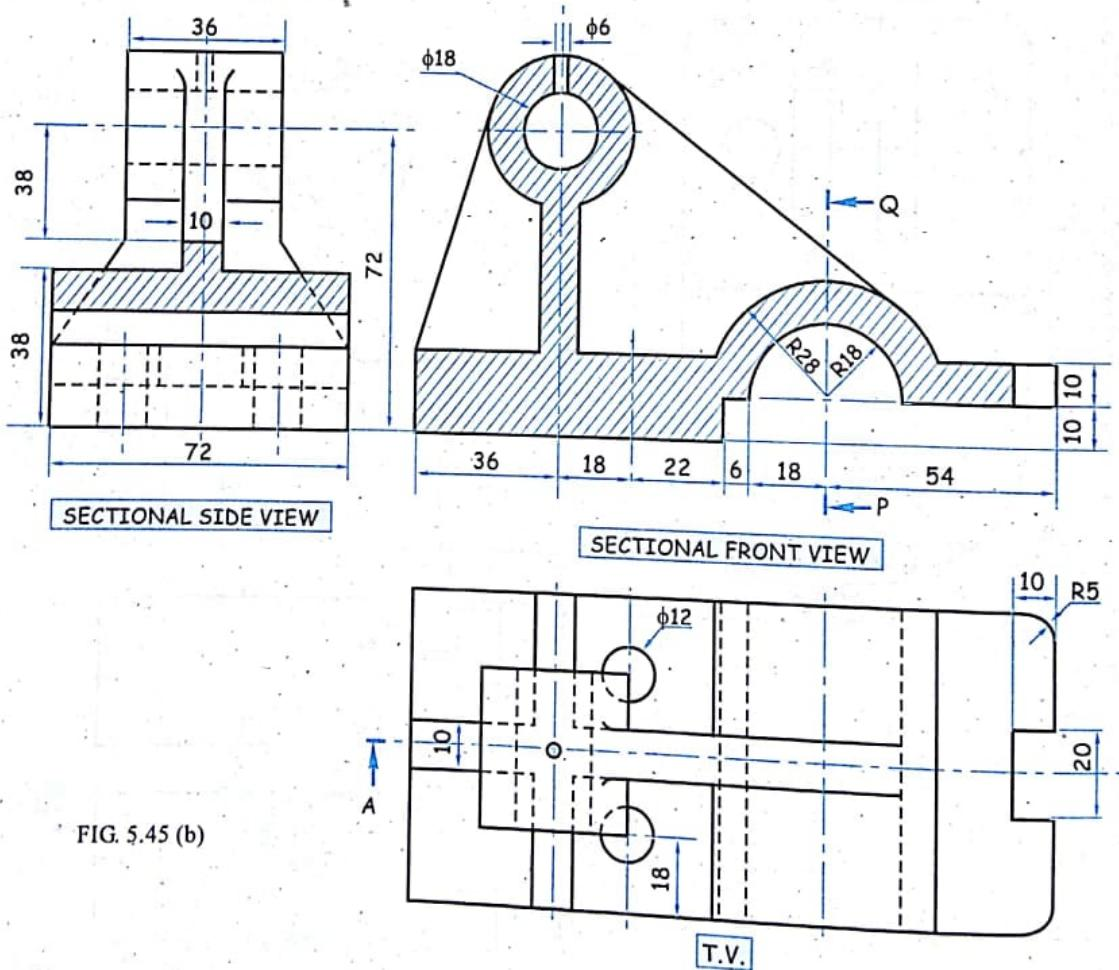

FIG. 5.45 (b)
**Solution :** Refer figure 5.45 (b)